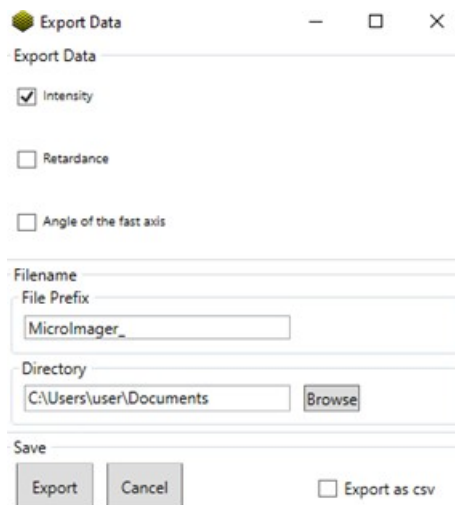

Fig. 15. Exporting Data as .txt file or .CSV format.
23. **Export Data**: It saves the Raw data corresponding to Intensity, Retardance, Angle of the fast axis (in our case Angle of the slow axis after 90° offset) as “.txt” format or “.csv” format if “Export as csv” is **marked**. For this, go to **File** → **Export Data** → mark data type (e.g., **Intensity**, **Retardance**, **Angle of the fast axis**) → choose the **File Prefix** if needed → choose the **Directory** → press **Export** as shown in Fig. 15.